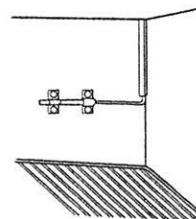

Fig.5
7. Route the sensor code and capillary tube into chamber and combine the sensor code or capillary by aluminum tape, after that fix on the freezer wall by cover metal and screw.(Fig. 5).